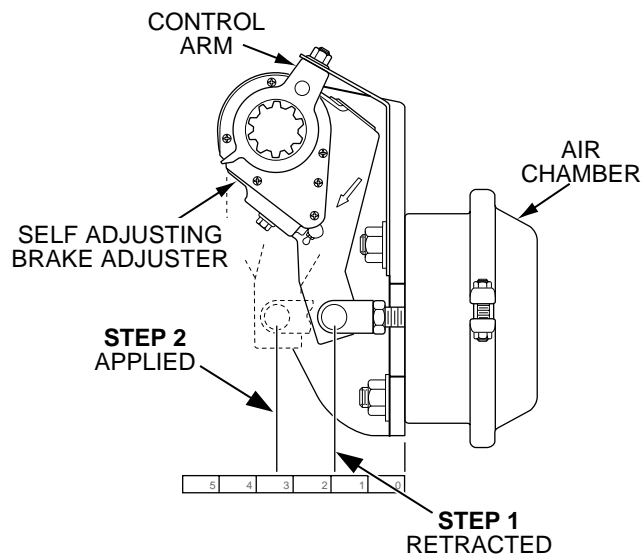

Figure 20 Measuring Pushrod Length
1. Measure the pushrod length (distance from the face of air chamber to the centerline of the pushrod clevis pin) when fully retracted, **step 1**. (See Figure 20.)